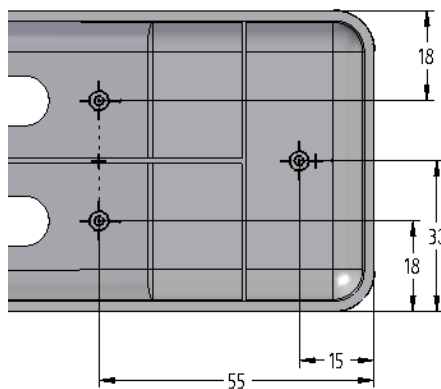

Figure 8-80 Partial view of the model with the profiles for mounting bosses
5. Place three instances of the mounting boss profiles and then add the required dimensions, as shown in Figure 8-80. It is recommended that you select the edge of the model as the first entity and the mounting boss profile as the second entity to add the dimension.